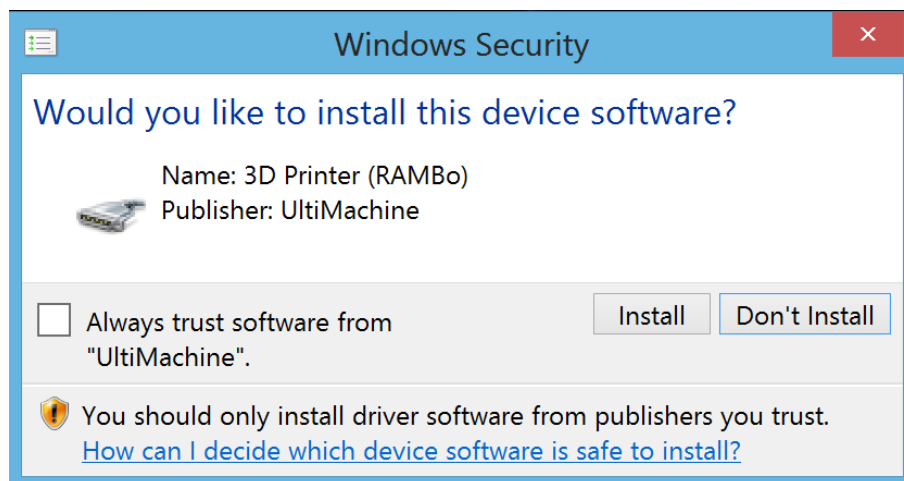

Figure 2.5: Confirm software installation
7. A security window may pop up (Figure 2.5). If so, click "Install".